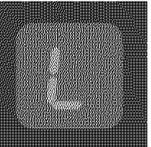

Fig. 16
KEEP WARM - Use the WARM (or LOW) key pad to activate the Warm setting for any of the Cooking Zones. The ON/OFF key pad for the desired Cooking Zone must be activated first, then touch the WARM key pad located in the Cooktop Main Control area once to set. **L** (LOW) should appear in the corresponding Cooking Zone LED (See Fig. 16 & page 16 for complete information).
2. Touch the  key pad located in the main control area. The Cooking Zone will display **L** (LOW) indicating that the Cooking Zone is properly set to Keep Warm. If no other key pads are pressed for a period of 5 seconds the control will activate the desired Cooking Zone at the Keep Warm setting (See Fig. 16).